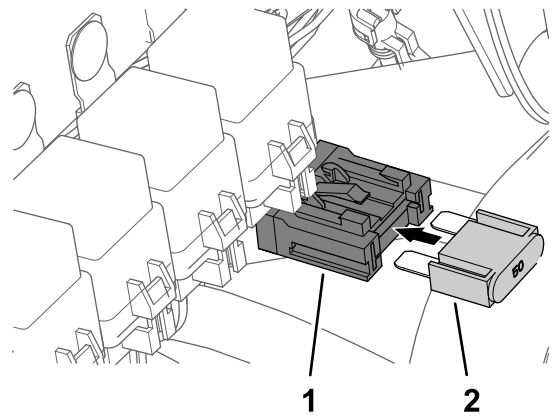

Figure 238
7. Insert the fuse (50 A) into inline-fuse block of the kit sprayer harness until the fuse is fully seated (Figure 238).